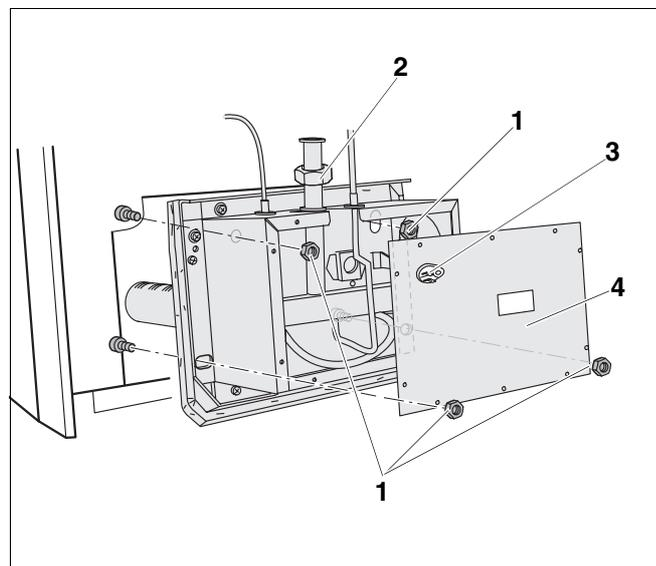

Fig. 50 Removing gas burner
6. Remove screws (→ Fig. 50) between gas valve and burner box. Place the gas connection pipe gasket in a safe place.